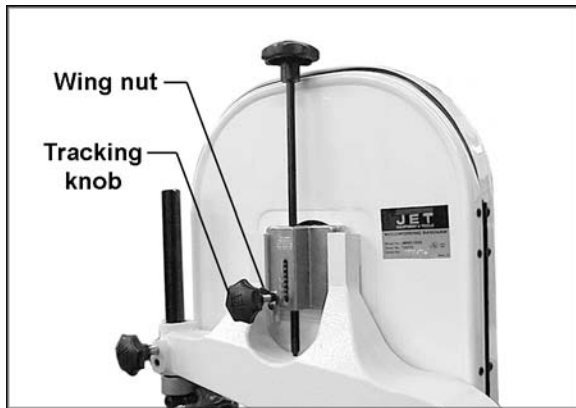

Figure 29
3. If adjustment is necessary, loosen wing nut (Figure 29), and tighten tracking knob slightly to move blade toward rear of machine. Slightly loosening the tracking knob will cause the blade to track toward the front of the machine.